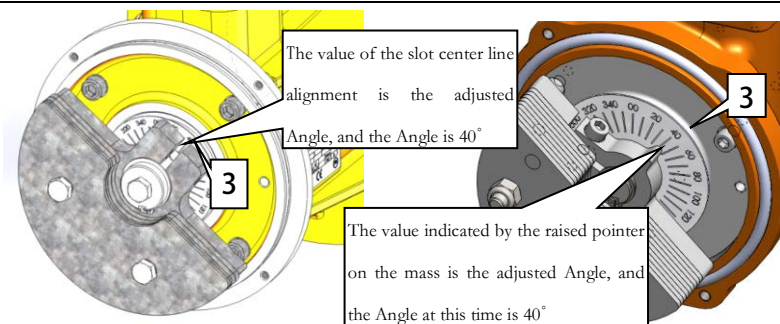

Fig. 8 Phase Angle adjustment
4.2. The angle of the mass is adjusted according to the desired vibration effect. When the center line of the notch of the mass (Figure 8 left) or the raised pointer on the upper side of the mass (Figure 8 right) is aligned with the "0" scale line of the circular mass indicator plate (sequence 3), the two masses are on the same plane, and the user can adjust the different angles according to their own needs to achieve different use effects.